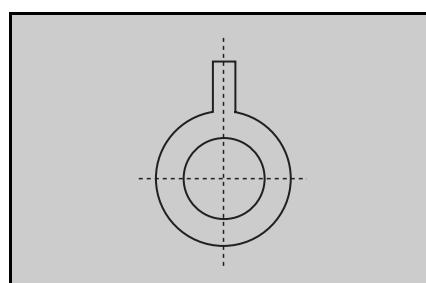

Figure 28. Alignment magnet (or dummy ring)
5. Position the long tab of all alignment magnets and of the dummy ring together in an uncorrected position. (See Figure 28).